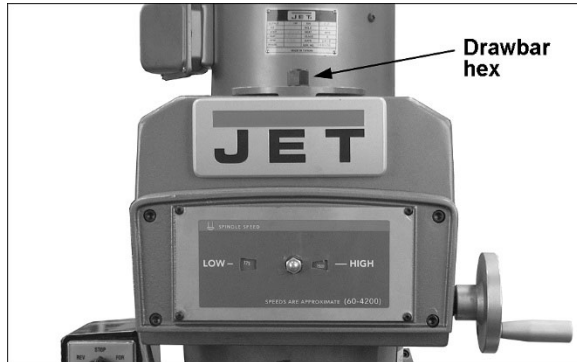

Figure 10-1: Draw bar
1. Apply spindle brake and loosen draw bar two or three turns (counterclockwise) with the provided wrench placed over the draw bar hex (Figure 10-1).